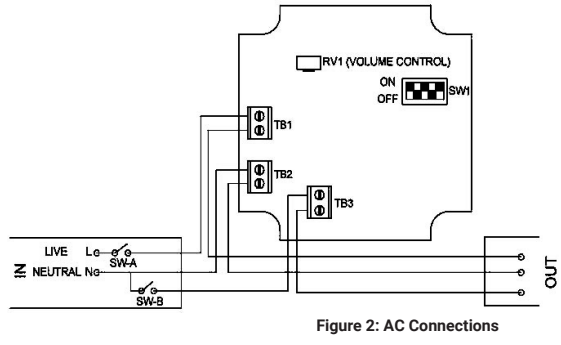

Figure 2: AC Connections
- As with the DC units, the AC units have a selectable tone via the SW1 DIP switch, see Figure 2.
- A second stage can be activated by applying an additional "N" connection to the TB3 terminal on the PCB, as shown in Figure 2. In this instance SW-B is used to indicate this stage being activated.